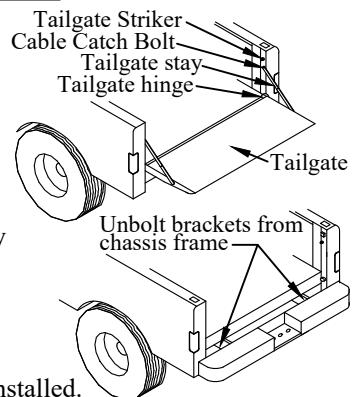

Figure 5: Remove Hardware.
1. Remove the tailgate and tailgate hardware (Figure 5).